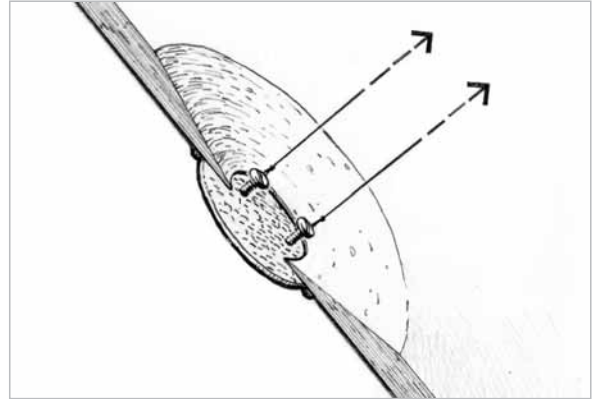

Figure 4-4 Pull the backer tight against the inside of the panel to permanently bond the backer in position.
4. Pull the backer into position on the inside of the panel and tie off the strings to a stationary object close to the hole or around a stick laid across the hole (*Figure 4-4*). Keep enough tension on the strings to hold the backer in position and bend the backer as necessary to match the contour of the panel. Some of the epoxy mixture should squeeze out of the joint. Scrape away the excess and smooth the joint before it begins to cure. Allow the epoxy to cure thoroughly before removing the screws.